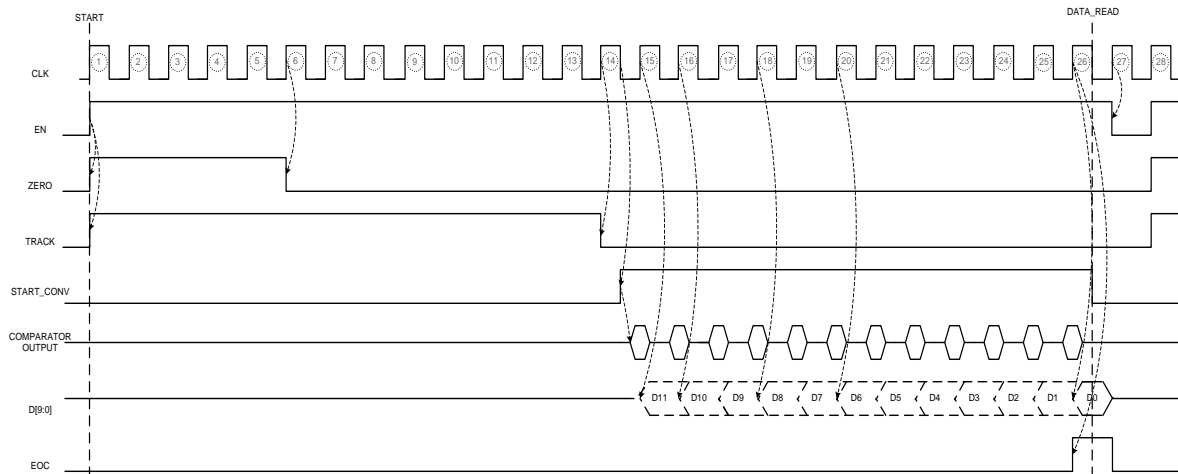

Figure 8: Track and Hold Sequence Timing Diagram
The implemented track and hold circuit ensures a stable voltage on the input of the SC ADC during the conversion. Figure 8 shows the polarity and the timing of the external and the internal signals controlling the track and hold sequence of the converter. The clock ($f_{CLK} = 0.5$ MHz) and the enable signal (EN) are provided by the main PM control logic while all the other signals are internally generated. The timing diagram illustrates a tracking period of 13 clock cycles, (26 μ s inclusive of 10 μ s auto-zero time) and a conversion period of 24 μ s, hence a total ADC conversion cycle of 50 μ s.